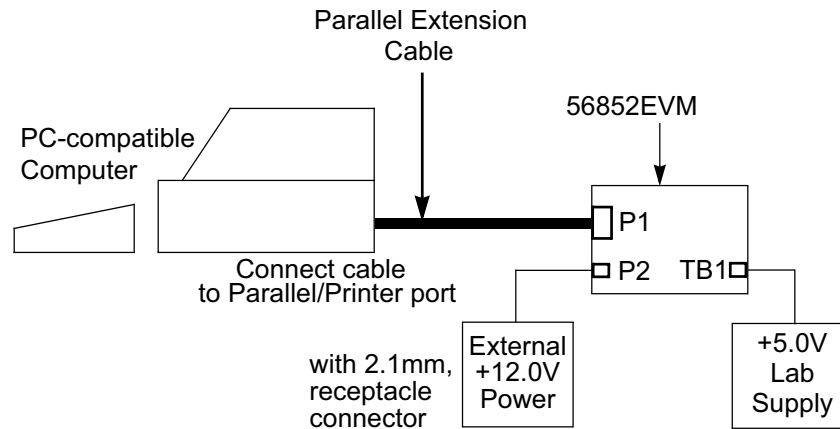

Figure 1-3. Connecting the 56852EVM Cables
An interconnection diagram is shown in **Figure 1-3** for connecting the PC and the external +12.0V DC/AC power supply or external +5.0V DC lab power supply to the 56852EVM board.
2. Connect the other end of the parallel extension cable to P1, shown in **Figure 1-3**, on the 56F801EVM board. This provides the connection which allows the host computer to control the board.
4. Connect the 2.1mm output power plug from the external switching power supply into P2, shown in **Figure 1-3**, on the 56852EVM board. Optionally, attach an external +5.0V DC lab power supply via the 2-pin terminal block, TB1.